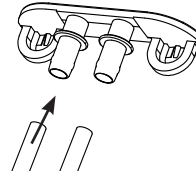

Figure 9
- Once draining is complete, reconnect both tubes to the gray plastic tube plug (Figure 9)
6. Once rinsing is complete, reconnect the drain tubes to the drain plug (Figure 9), or if you have a side tank, reconnect the unlabeled tube to the drain plug, and Tube B to the Side Tank base (Figure 4).